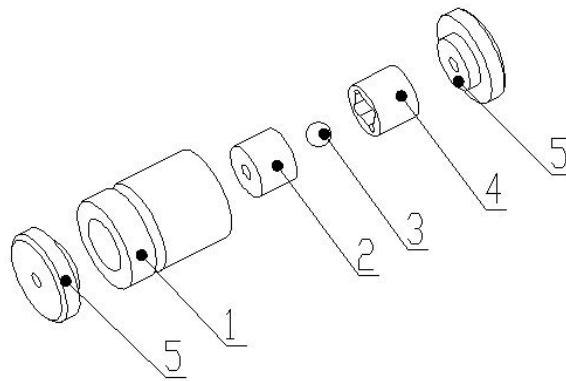

Figure 4-2: Assembly of the check valve
- 4) Assemble the cleaned check valve referring to figure 4-2. Roughness of different sides of the valve seat is not the same Identify them carefully before installation (the gem ball seats the smooth side).